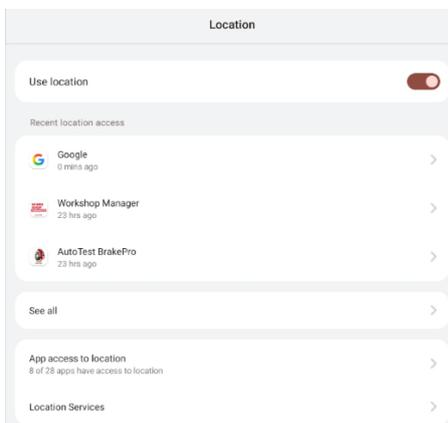

Figure 20
1. Check if your Location services are turned on (Figure 20).